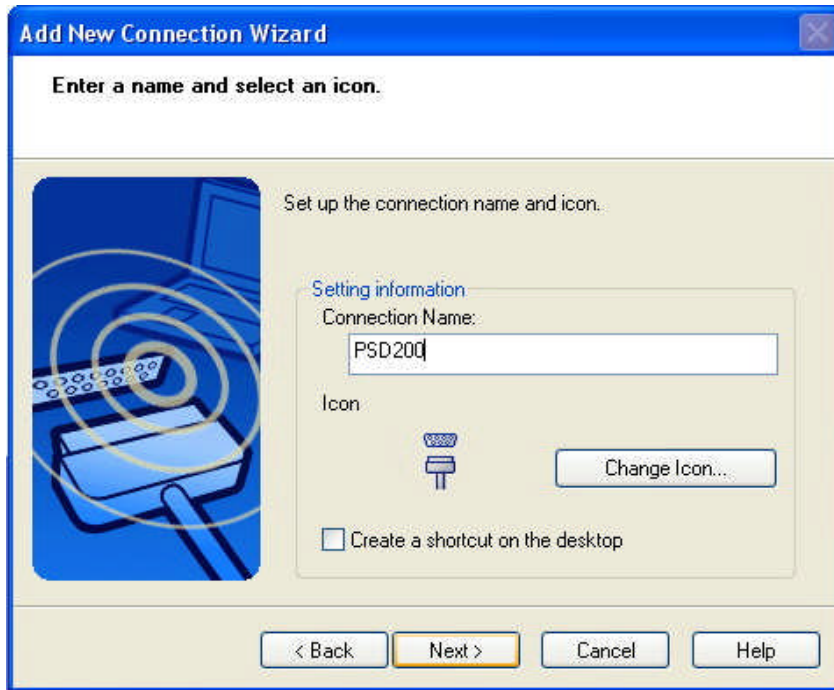

Figure 3.8: Enter a name and select an icon.
- g. Enter a connection Name and change an icon. (Figure 3.8)